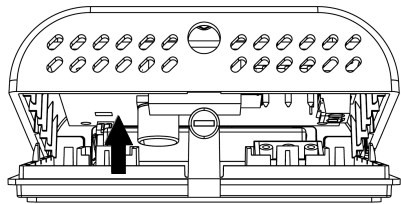

Fig. 3
- 2 Lift up the cover, while pressing it slightly, until it is fully extracted (Fig. 3).